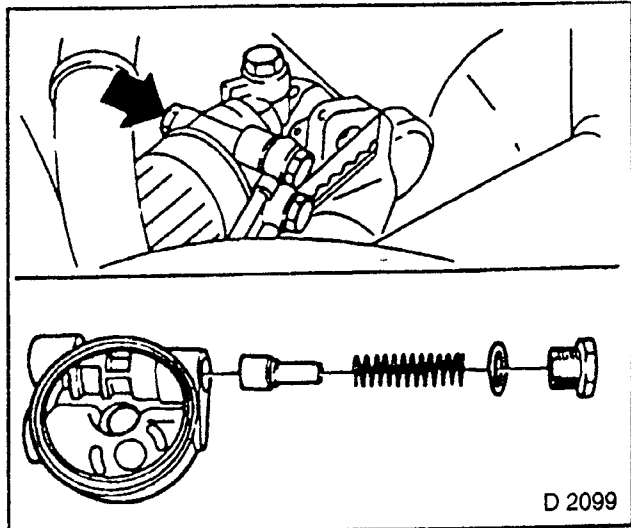

Fig. 491
1. Removed components in order. Shown Fig. 491.